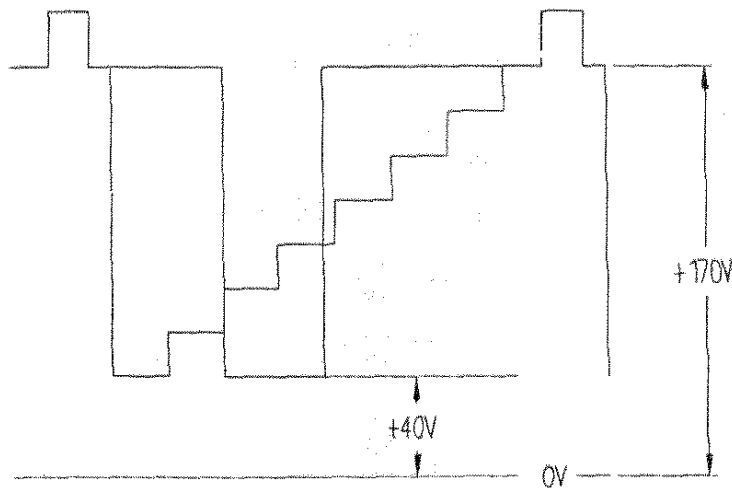

FIGURE 3-8. GRAYSCALE SETUP PATTERN (STAIRSTEP).
- STEP 2. Setup grayscale for the RGB1 operation. Refer to Figure 3-8 and 3-9 as required.